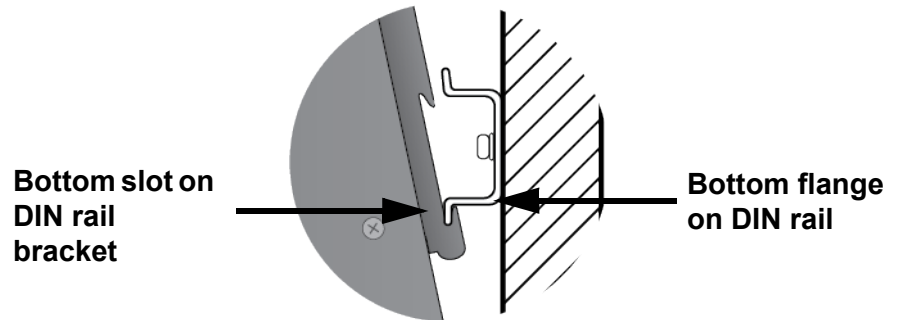

Figure 13. Installing the Switch on a DIN Rail - 1
2. Hook the bottom flange on the DIN rail into the bottom slot on the DIN rail bracket on the switch. Refer to Figure 13.